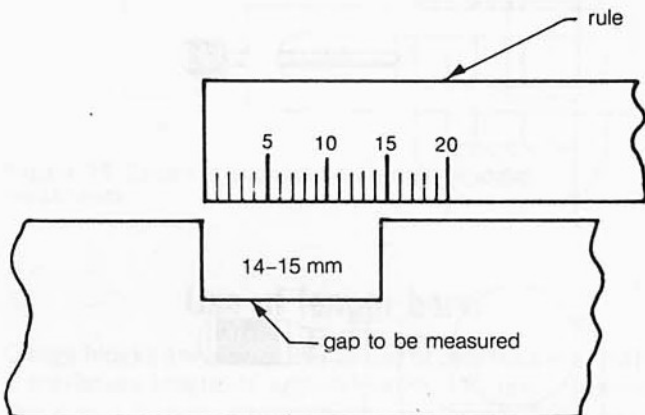

Figure 12 Measuring a gap
- 1 Using a rule, a range of sizes, including the size required, is determined as accurately as possible. For example, for the sketch shown in Figure 12, it is obvious that the gap width is between 14 and 15 mm.